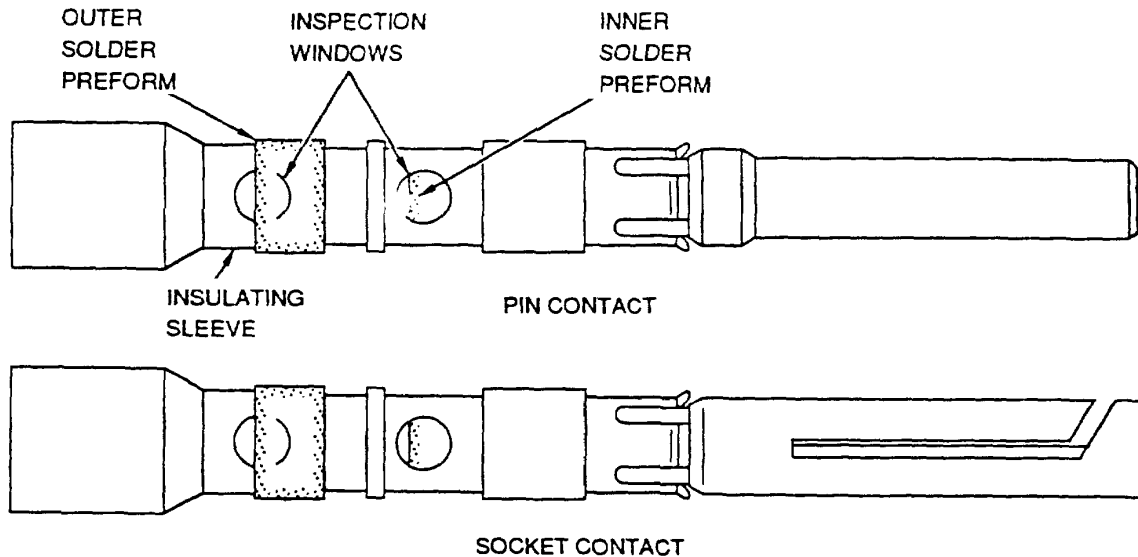

Figure 12. Typical Coaxial Solder Contact
14. Introduction To Solder Contacts. Removable solder-type contacts are used with connectors conforming to MIL-C-26482, MIL-DTL-83723, MIL-DTL-83733, MIL-DTL-26500, and, MIL-DTL-28748. These contacts contain prefluxed solder preforms and heat-shrinkable insulation material, which is available for twisted pair wire, coaxial cable (Figure 12), or single conductor shielded cable.
- b. Inspect assembly to see that shield-braid aid center conductor are both visible through the respective inspection windows (Figure 12).